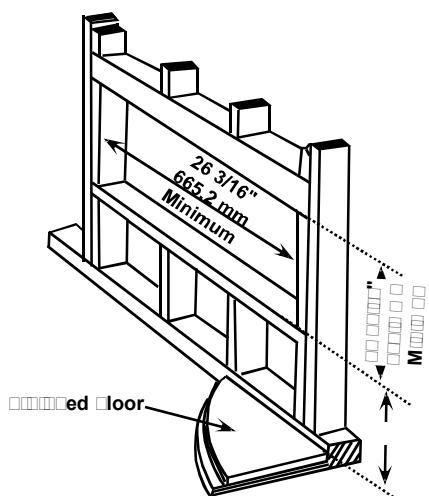

Figure 2
The wall sleeve must be installed with a minimum clearance to the door and 2" to adjacent walls. See figure 2 for minimum clearances of the sleeve into and out of the room.
- Locate the sleeve in the center of the minimum protection zones as shown in Figure 2 so both sides are at least the minimum protection from the wall.